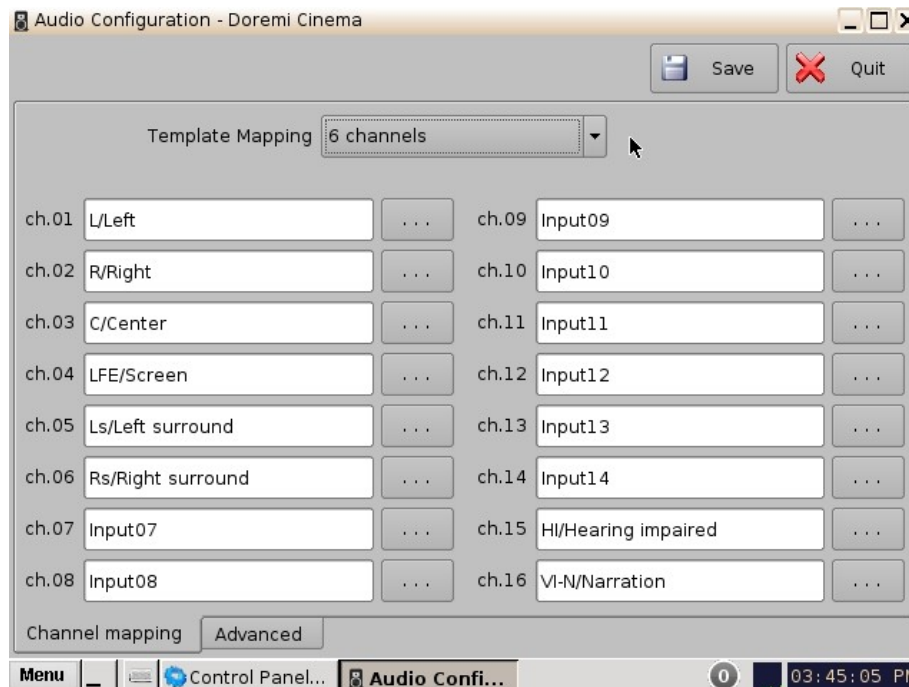

Figure 31: Audio Mapping Set to 6 Channels
- This configuration is defined as follows (Figure 31):
- **ch.01 is Left (L):** Output ch.01 will be playing the CPL's Left (L) audio channel.
- **ch.02 is Right (R):** Output ch.02 will be playing the CPL's Right (R) audio channel.
- **ch.03 is Center (C):** Output ch.03 will be playing the CPL's Center (C) audio channel.
- **ch.15 is HI:** Output ch.15 will be playing the CPL's Hearing Impaired (HI) audio channel.
- **ch.16 is VI:** Output ch.16 will be playing the CPL's Narration (VI) audio channel.